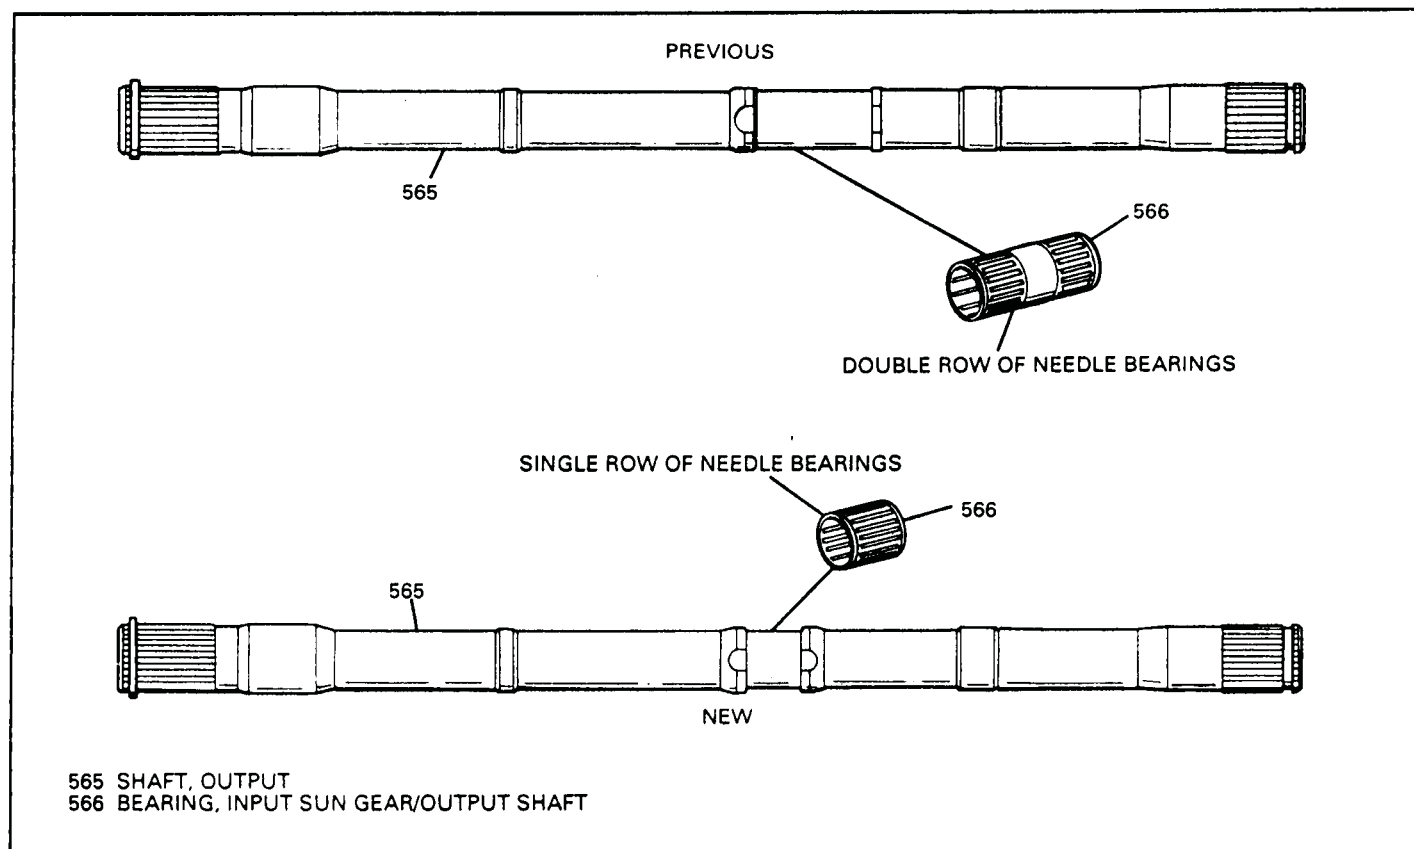

Figure 22
CHANGE: There is now a new Output Shaft/Bearing Assembly, and a new style (5th Design) 3rd Roller Clutch Assembly (See Figures 22 and 23). Beginning on December 11, 1989 (Julian Date 345) all 1990 model 440-T4 transaxles were built with the new 3rd Roller Clutch Assembly, and the new Output Shaft/Bearing Assembly went into production on January 25, 1990 (Julian Date 025).
- (1) OUTPUT SHAFT/BEARING - The new bearing has a single row of needle bearings instead of a double row, and the output shaft is machined different to accomodate the new bearing (See Figure 22). This change will improve lube oil flow to the 3rd roller clutch and input sprag.